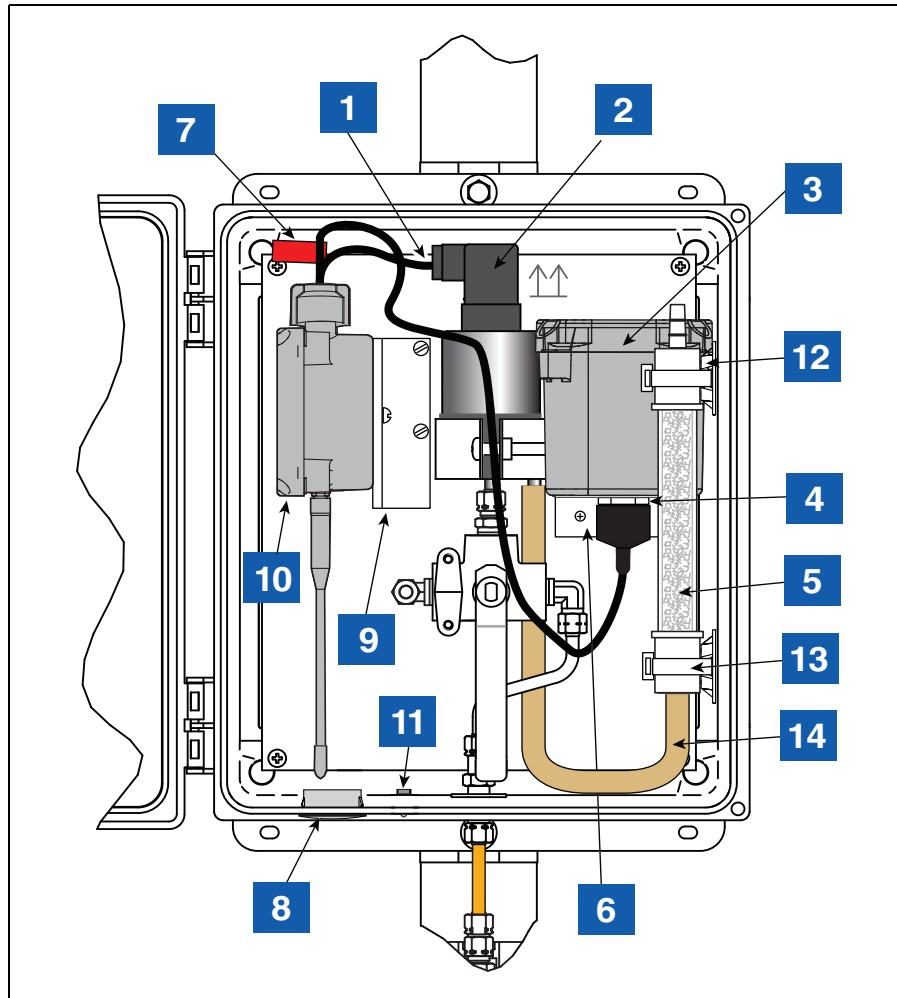

Figure 23. Example VPS Transmitter/Battery Pack Installation in the Universal Enclosure
4. Get the battery pack mounting bracket (item 5 in Figure 23) from the 330020-716 kit and put the threaded connector fitting of the battery housing through the large hole in the bracket.
5. Screw the 514100-475 thin hex nut from the 330020-716 kit onto the battery housing cable connector threaded fitting until snug (item 4 in Figure 23).
6. Attach the battery/bracket assembly to the back surface of the Universal Enclosure using two #10 taptite screws from the kit (item 5 in Figure 23).
10. Install the 514100-497 plastic plug from the 330020-716 Kit into the 0.88" diameter hole in the bottom of the Universal Enclosure (item 7 in Figure 23). Push the plug up into the hole until the flange of the plug rests against the outside surface of the enclosure.
11. Get the contents of the 330020-717 kit. Thread a tie wrap through the slots in each of the two self-adhesive mounts (item 12 in Figure 23). Place the top mount against the large cap on one end of the tube and tighten the tie wrap until it is against the tube cap but you can still rotate the tube. Place the second mount against the other end cap of the tube, again pulling the tie wrap through the mount until it is against the tube cap but you can still rotate the tube (item 13 in Figure 23).
12. Remove the two soft plastic seals from each end port of the drying tube. Get the Tygon tubing from the kit and attach one end of the tubing to one end of the drying tube (item 14 in Figure 23). Slide the tubing onto the drying tube as far as you can (snug). Referring to Figure 23, position the drying tube vertically in the enclosure with the open port of the tube up, and estimate the length needed to loop from the bottom of the drying tube over to the vent port (off center) of the VPS. Cut the Tygon tubing at the estimated length (approximately a foot or so). Remove the paper cover from the self-adhesive base of the two tie wrap mounts and stick the drying tube to the inside of the enclosure as shown in Figure 23. Pull each of the tie wraps snug and cut off the excess. Attach the other end of the Tygon tubing to the vent port (off center) of the VPS.
NOTICE The upper port of the drying tube must remain open and be oriented up as shown in Figure 23.
LEGEND FOR NUMBERED BOXES IN Figure 23